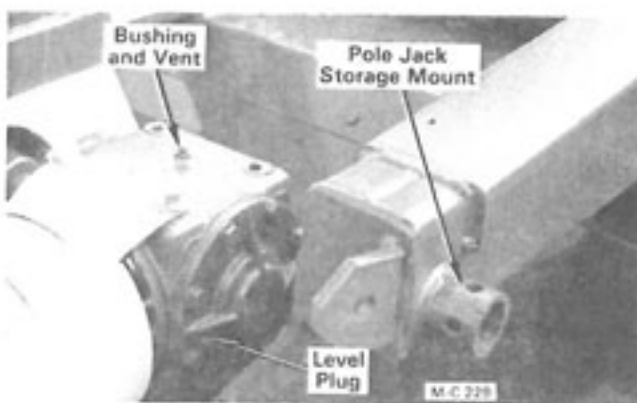

Figure 12
1. To prevent possible damage to tractor tires when making sharp left turns, remove the pole jack from the pole. Store it on the jack mount located on the left side of the body by the gear box, see Figure 12.